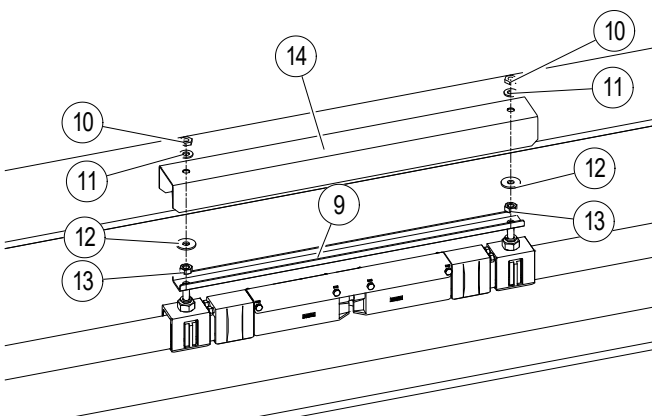

Fig. 98: Mount the bridging plate
- Place the bridging plate (Pos. 9) over the bolts of the hanger clamp and screw together with the M10 nuts (Pos. 13) with the specified torque (SW 17, torque wrench: **14 Nm**). Mount the cover (Pos. 14) onto the hanger clamp using the fastening elements, consisting of washer DIN 9021 (Pos. 12), washer DIN 125 (Pos. 11) and hexagon M10 nut (Pos. 13) and tighten with the specified torque (SW 17, torque wrench: **8 Nm**). In addition, secure the hexagon M10 nut (Pos. 10) with Loctite (see Fig. 98).